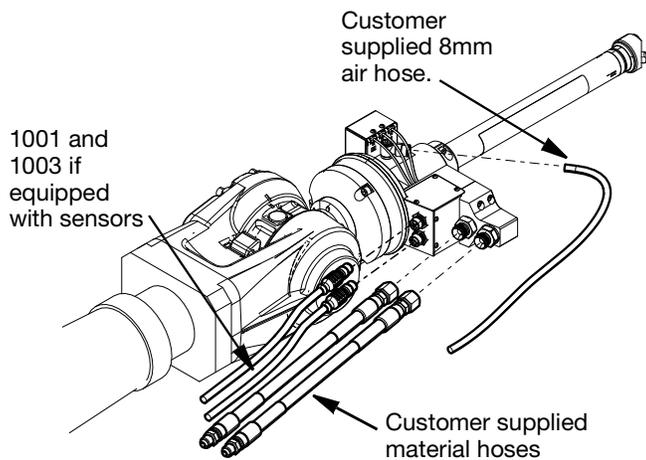

FIG. 10
2. Disconnect the material inlet hose and the material return hose. Always use two wrenches when loosening the high pressure hose connection. See FIG. 10
3. Disconnect the 8mm air hose. See FIG. 10
4. Unplug the cable connectors by unscrewing the fitting on the 5 pin cable connector (1001) and 8 pin cable connector (1003) if fitted. See FIG. 10